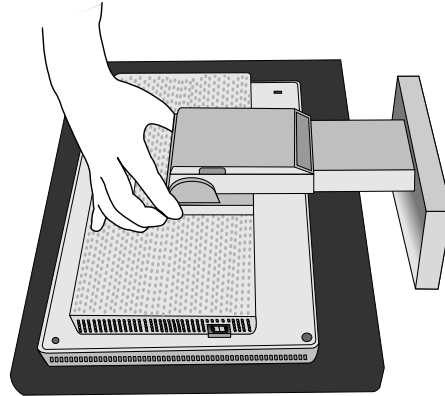
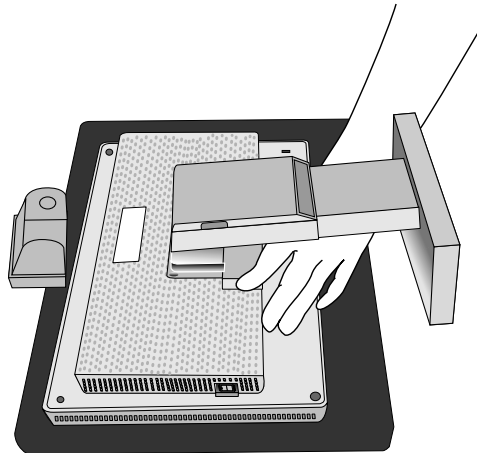

Figure R.1
Figure R.2
4. Remove the hinge cover (**Figure R.1** and **Figure R.2**).